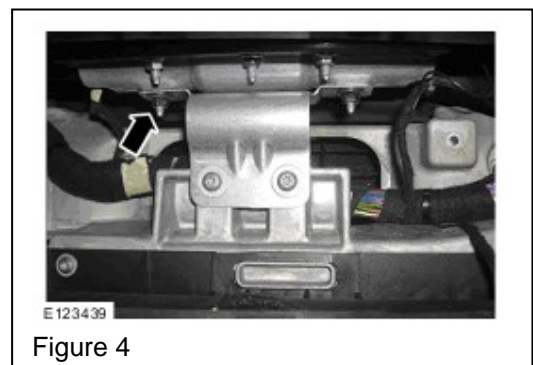

Figure 4
- Once 'Fresh Air' mode is activated, the recirculation flap lever will be visible. (Figure 4)